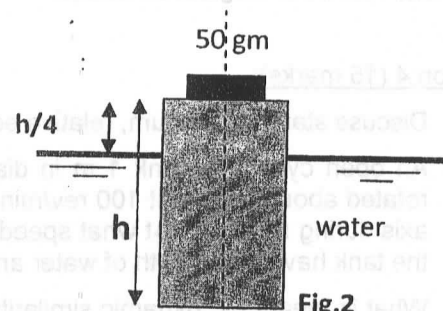

Fig.2
- C) A wooden cylinder is placed in water with its axis vertical. When a mass of 50 gram is placed on its top base, the cylinder sinks such that $\frac{1}{4}$ its axis is outside water surface as shown in fig. 2. Find how much more of the axis sinks if the mass is increased to 90 gm. Consider the specific gravity of cylinder material = 0.6.